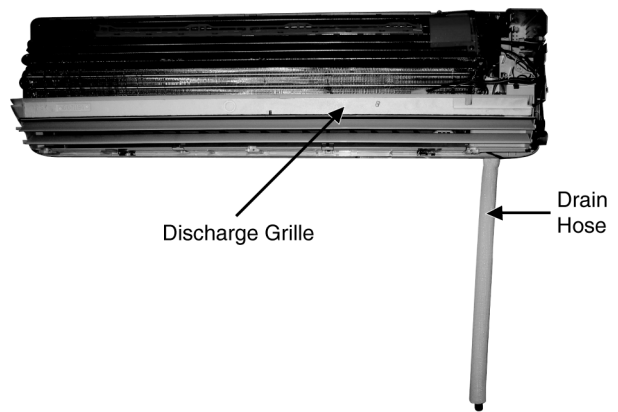

Fig. 8
- Pull out the Drain Hose (Behind the Discharge Grille) from outlet to remove the Discharge Grille. (Fig. 8)